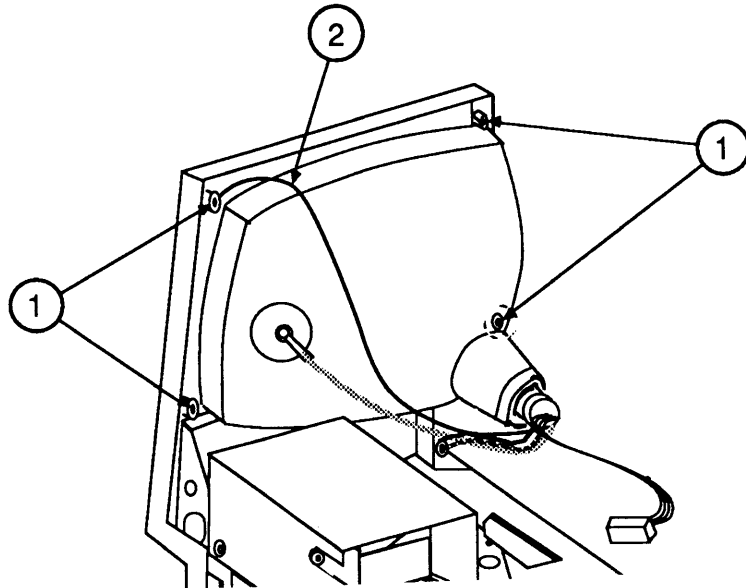

FIGURE 11
3. Place the computer face-down on a cloth or foam pad. Remove the four screws that fasten the CRT (Figure 11, #1) and the ground wire (Figure 11, #2).